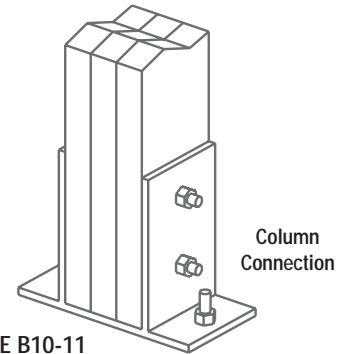

FIGURE B10-11
- 1.2 Columns bearing on concrete: Columns bearing on a concrete foundation shall be attached to prevent horizontal movement of column base as specified by the Building Designer in the Construction Documents (Figure B10-11).